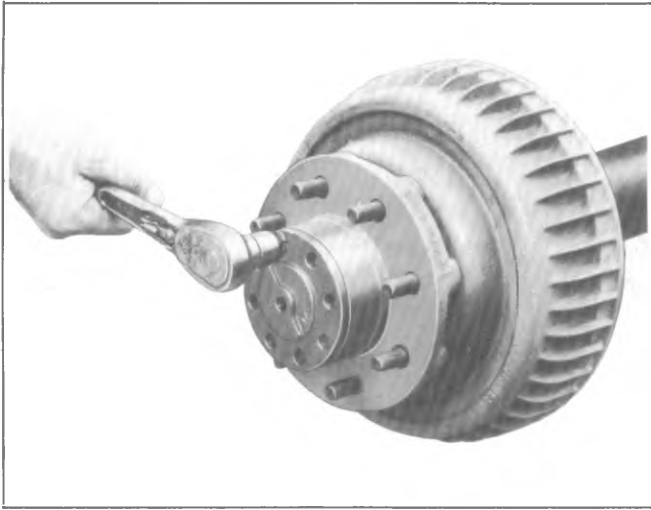

Fig. 4B-30--Removing Flange-to-Hub Bolts
1. Remove bolts that attach the axle shaft flange to the wheel hub. See figure 4B-30.
HUB AND DRUM ASSEMBLY—FIG. 4B-31